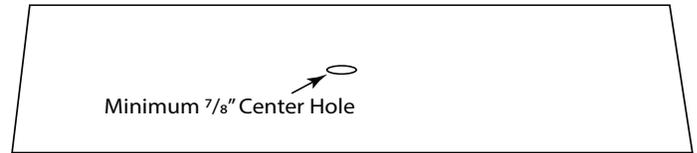
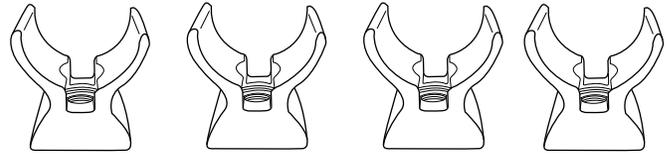

Fig. 3 Shows burner pan center hole.
Fig. 4 Brass burner supports.
The burner pan requires a center hole a minimum of $\frac{7}{8}$ -inch in diameter (Fig. 3). The burner also is supplied with brass burner supports required for assembly (Fig. 4). The number of brass supports supplied is dependent on burner size. The 11" burner uses (4) supports, the 18" burner uses 8 supports, the 25" burner uses 12 supports and the 32" burner uses 16 supports.
Step 1: Install the nipple into the brass burner (Fig. 4).